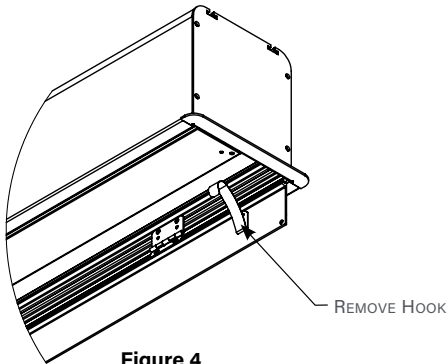

Figure 4
2. Remove the (2) hooks at each end of the fabric door using a #2 Phillips screwdriver (Figure 4).